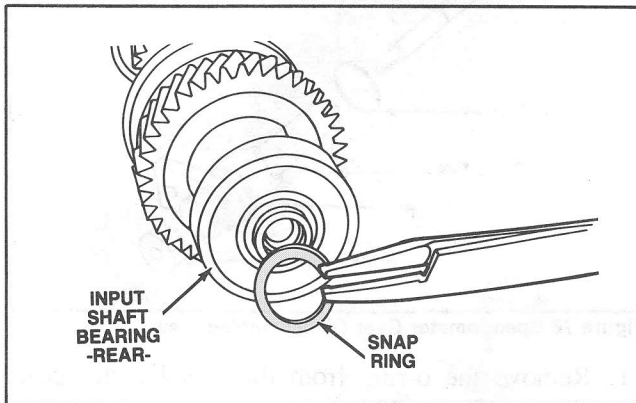

Figure 71 Snap Ring Removal
1. Remove the snap ring from the fifth gear end of the shaft. (Figure 71).